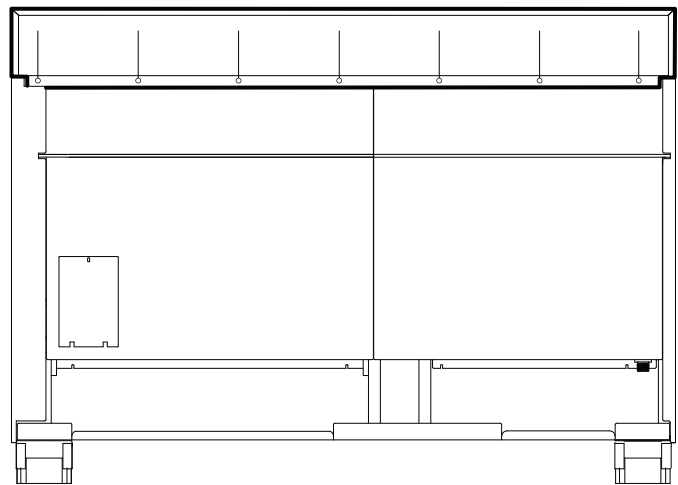

Figure 17: Backguard Installation
3. Align the back panel of the new accessory with the flanges on the range side panels right and left rear corners (Figure 17). Make sure the backguard's front face is outside the flange on the front side of the range.